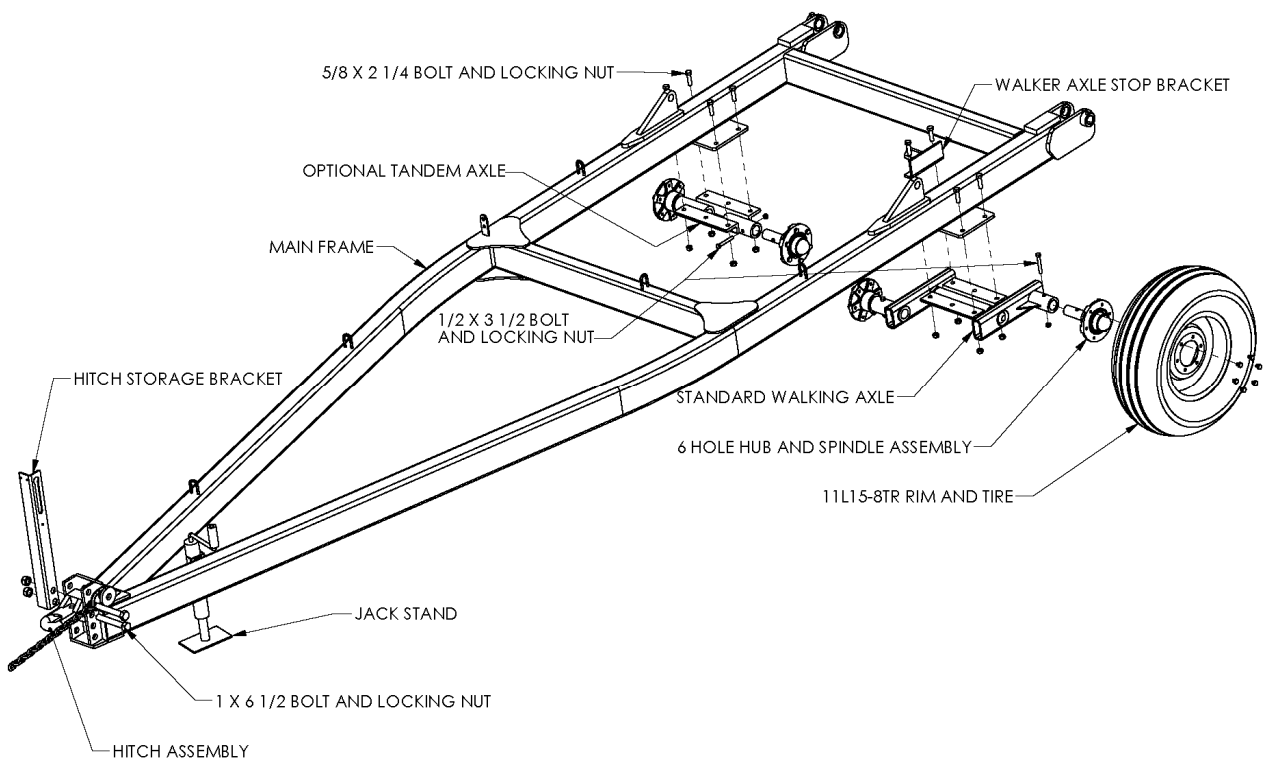

Figure 1
1. Bolt the Axle Brackets to the main frame. You will have either the Standard Walking Axle or the optional Tandem Axle assemblies. Both are shown in Figure 1. Use 5/8" x 2 1/4" bolts, lock washers, and hex nuts. Note the orientation of the walking axle when installing this option and be sure to include the Walking Axle Stop Tube Assemblies as shown.